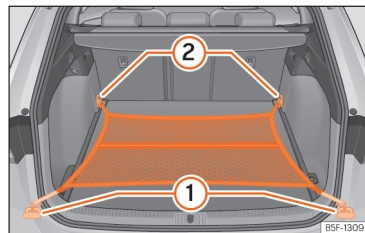

Fig. 188 In the boot: net bag hooked up at floor level.
- Secure the net hooks to the fastening rings »» Fig. 188 ① and ② »» ⚠. The bag zip should be facing upwards.